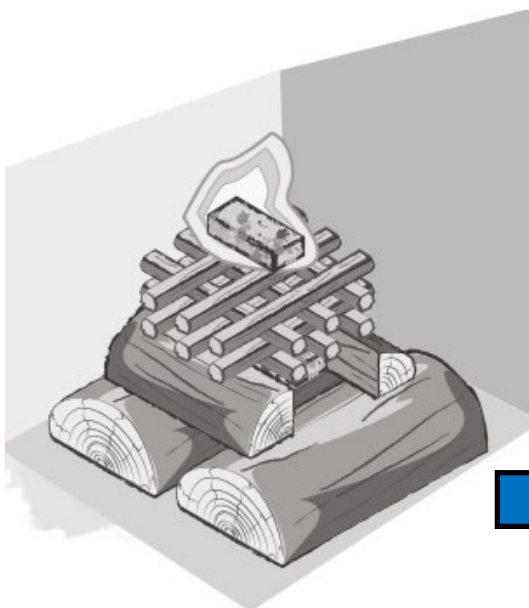

Fig. 7
- On top of the smaller logs, build a grid of kindling and place a further fire lighter on the very top. (See Fig. 7)